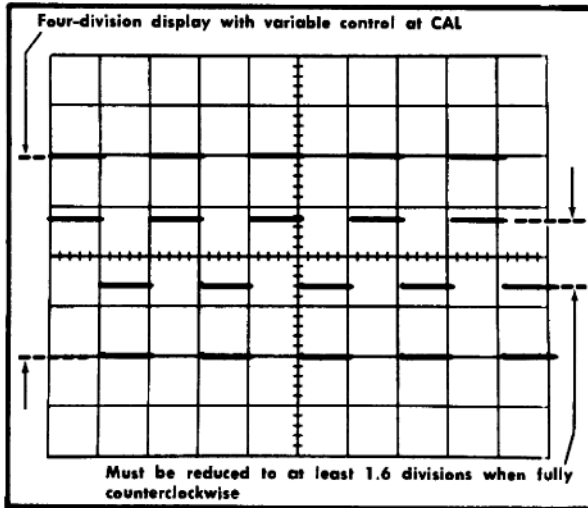

Fig. 6-19. Typical CRT display when checking VARIABLE VOLTS/DIV control range (double exposure).
- b. CHECK—Turn the Channel 2 VARIABLE VOLTS/DIV control fully counterclockwise. Display should be reduced to 1.6 divisions or less (representing a control attenuation range of 2.5:1 or greater; see Fig. 6-19). Channel 2 UNCAL light must be on when VARIABLE control is not in CAL position.
- e. CHECK—Turn the Channel 1 VARIABLE VOLTS/DIV control fully counterclockwise. Display should be reduced to 1.6 divisions or less (control range of 2.5:1 or greater; see Fig. 6-19), Channel 1 UNCAL light must be on when VARIABLE control is not in CAL position.